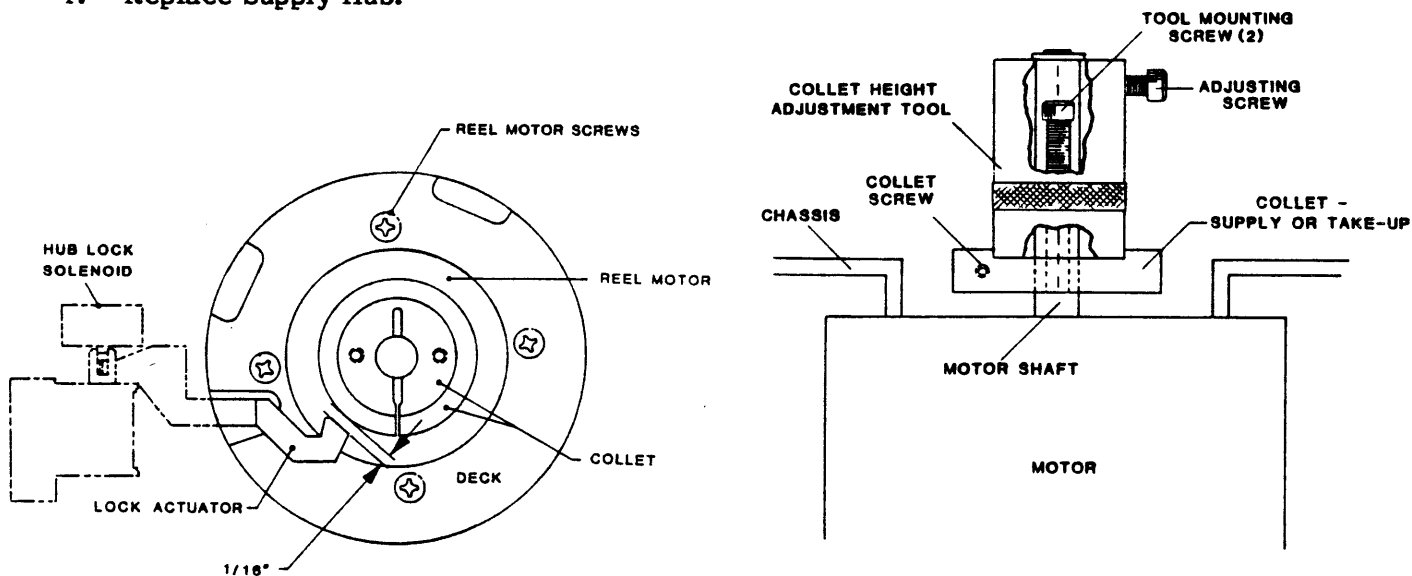

Figure 5-26. Supply Reel Motor Assembly
5.3.31 SUPPLY REEL MOTOR ASSEMBLY (Figure 5-26)
- D. Remove four Phillips Motor Mounting Screws (same as in Fig 5-26) and lower the Reel Motor enough to access the Motor Connector inside the Blower Box.